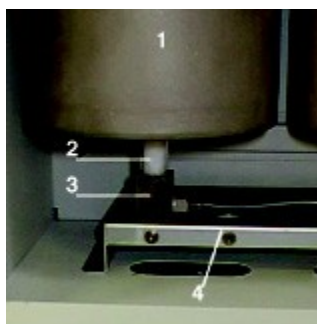

Figure 17. Furnace Reactor.
2. Delicately remove the used reactor (*Figure 17, below, 2*) from the right furnace.
4. Gently cleanup coupling union (*Figure 17, 1*) and O-ring. Wipe metal with alcohol if needed, but **do NOT** apply alcohol to O-ring. If using alcohol, apply a small amount of Vaseline to the O-ring to fix the cleaned coupling union.
5. Put a kimwipe or aluminium foil on the coupling union (*Figure 17, 3*) to protect cleaned coupling union from dust.
6. Delicately introduce the reactor into the furnace, ensuring that the tube conical end is turned downward toward the base (*Figure 17, 4*).